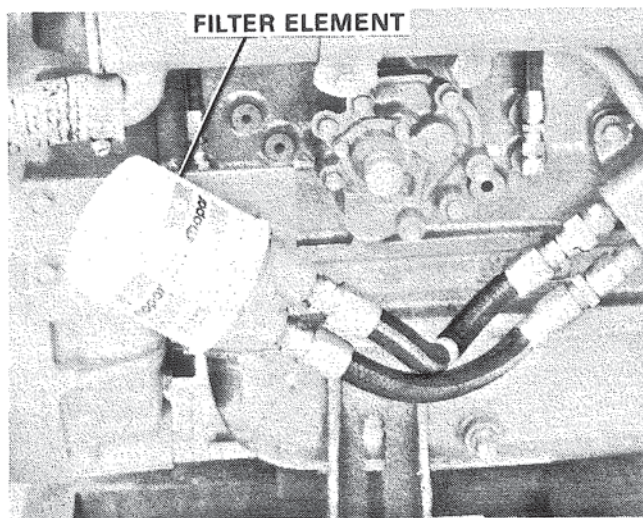

Figure 31. Oil Filter.
2. Remove oil filter. Figure 31.